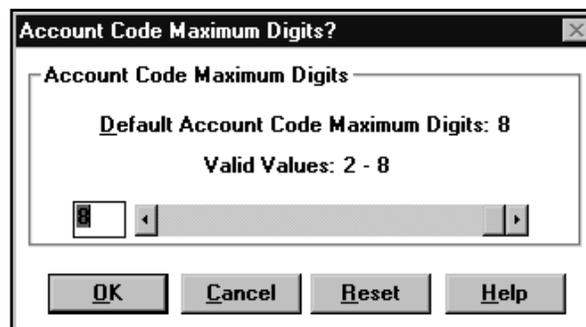

FIGURE 105. Example of Account Code Maximum Digits dialog box
1. To select the maximum number of digits in the account code, select Acct Code Max Digits in the configuration window. (See Figure 105.)